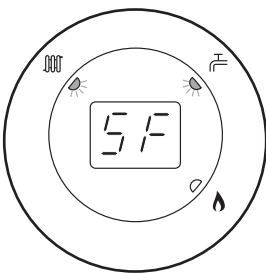

Fig. 63
4. The display will now alternate between 'SF' and the current boiler temperature and both green LEDs will flash (Figs. 63 & 64).